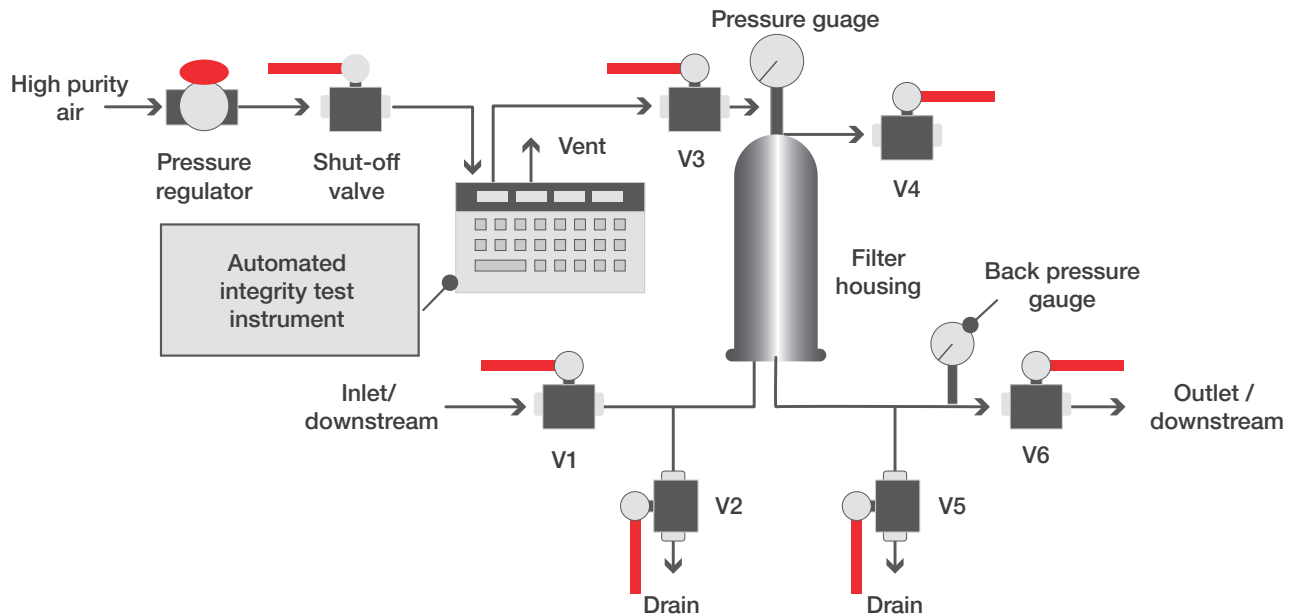

Figure 2. Housing connection and flow schematic
Refer to Figure 2 for cartridge housing set-up configuration and valve descriptions.
1. Assemble the system as shown in Figure 2 with all valves in the closed position.